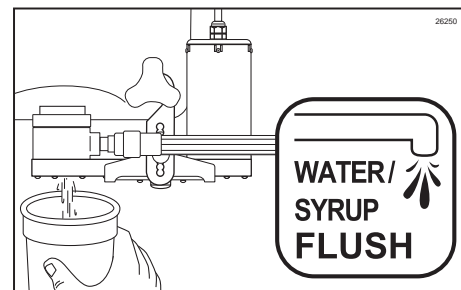

Figure 179
4. On occasion it may be desirable to sanitize the Injector Head between servings. Simply hold a container under the dispensing spout and press WATER / SYRUP FLUSH. (See Figure 179.)